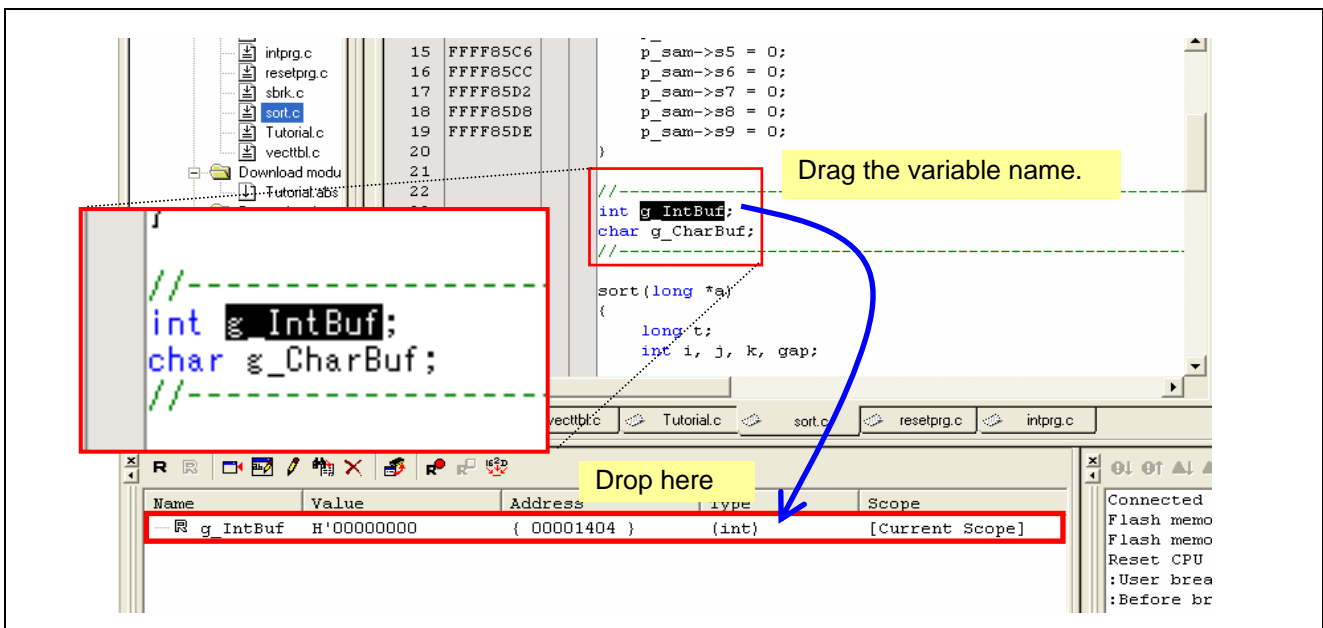

Figure 4.23 Watch Setting
- (2) Select `g_IntBuf` and then drag and drop it into the [Watch] window. Check that `g_IntBuf` is added to the [Watch] window as shown in Figure 4.23.